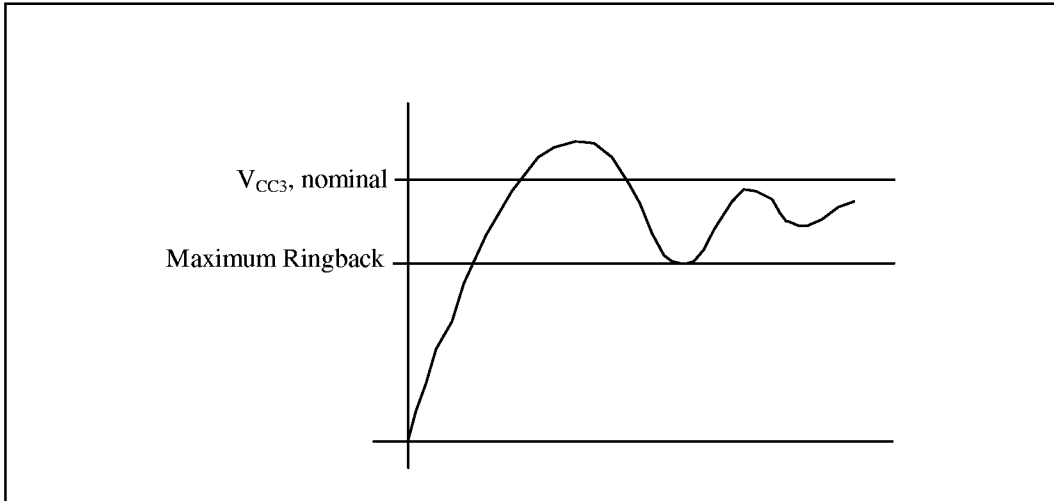
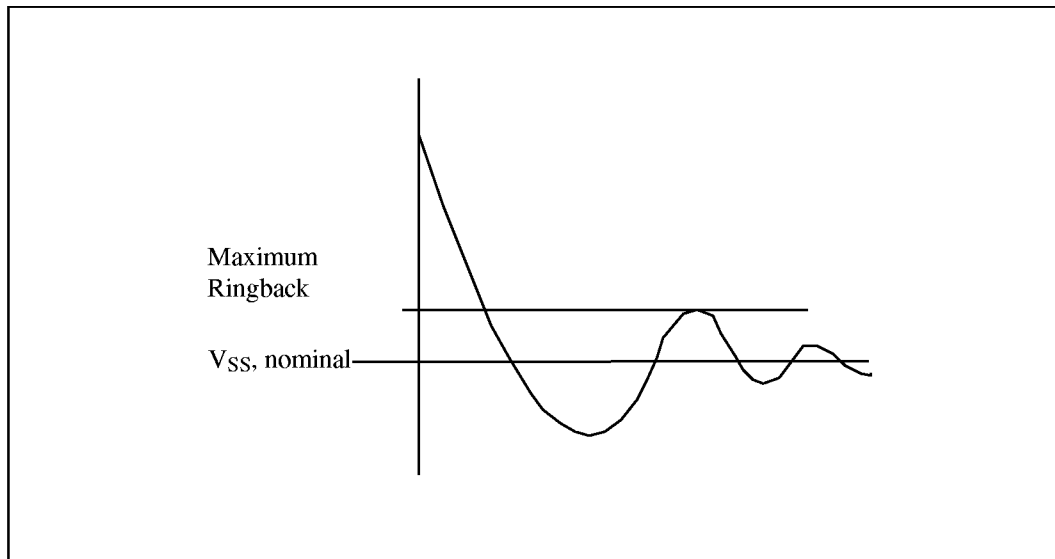

Figure 15. Maximum Ringback Associated with the Signal High State
Figure 17. Maximum Ringback Associated with the Signal Low State
**MAXIMUM RINGBACK SPECIFICATION:** The maximum ringback of CLK associated with their high states (overshoot) must not drop below  $V_{CC3} - 0.7V$  as shown in Figure 15. Similarly, the maximum ringback of CLK associated with their low states (undershoot) must not exceed  $0.5V$  as shown in Figure 17.